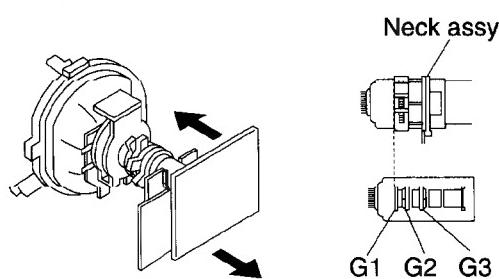

Fig. 3-1
- Position neck assy as shown in Figure 3-1.
(See Figures 3-1 through 3-3.)
- Move the deflection yoke forward and adjust so that the entire screen is green. (See Figure 3-1.)